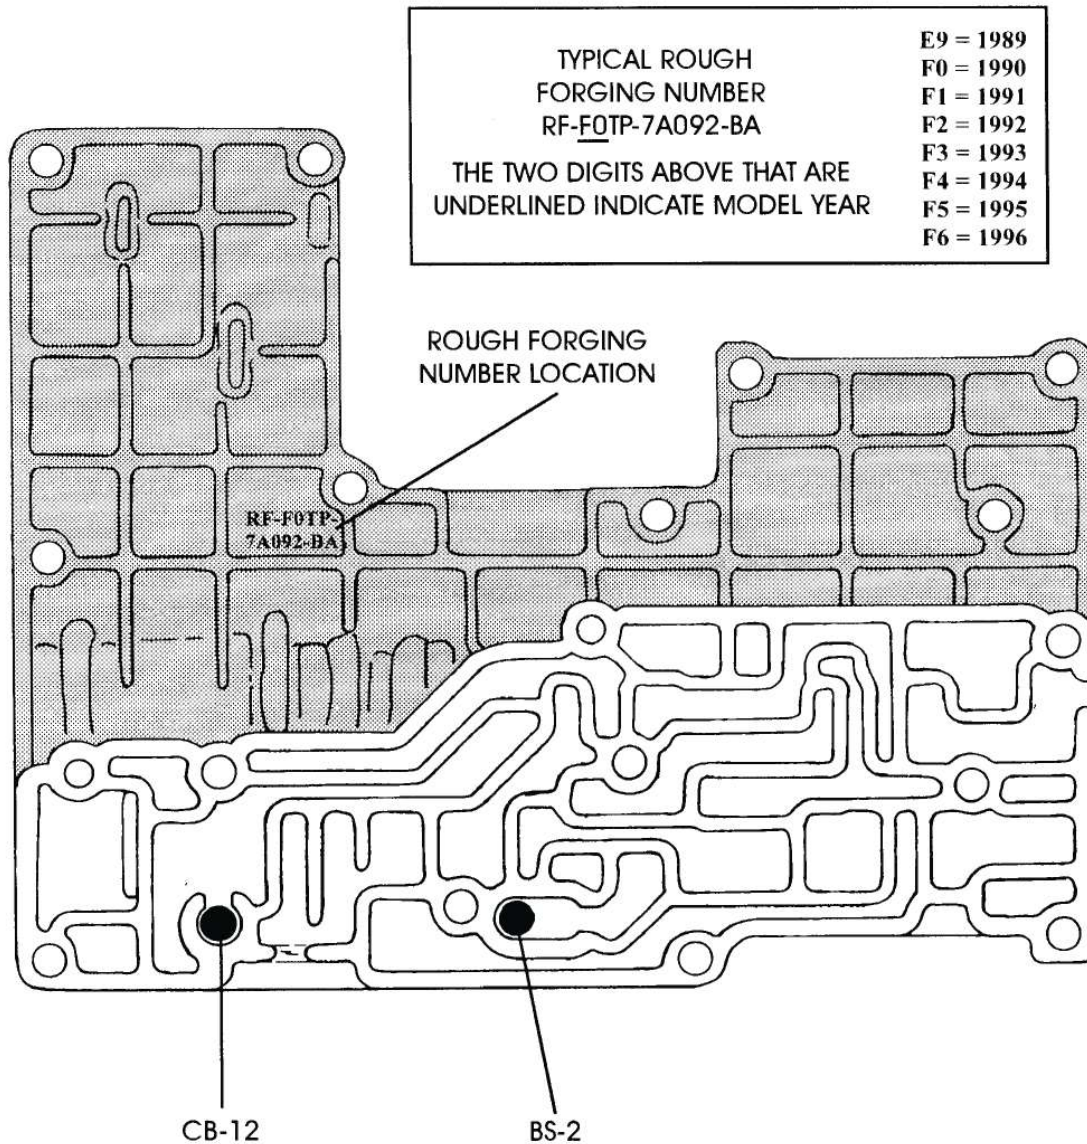
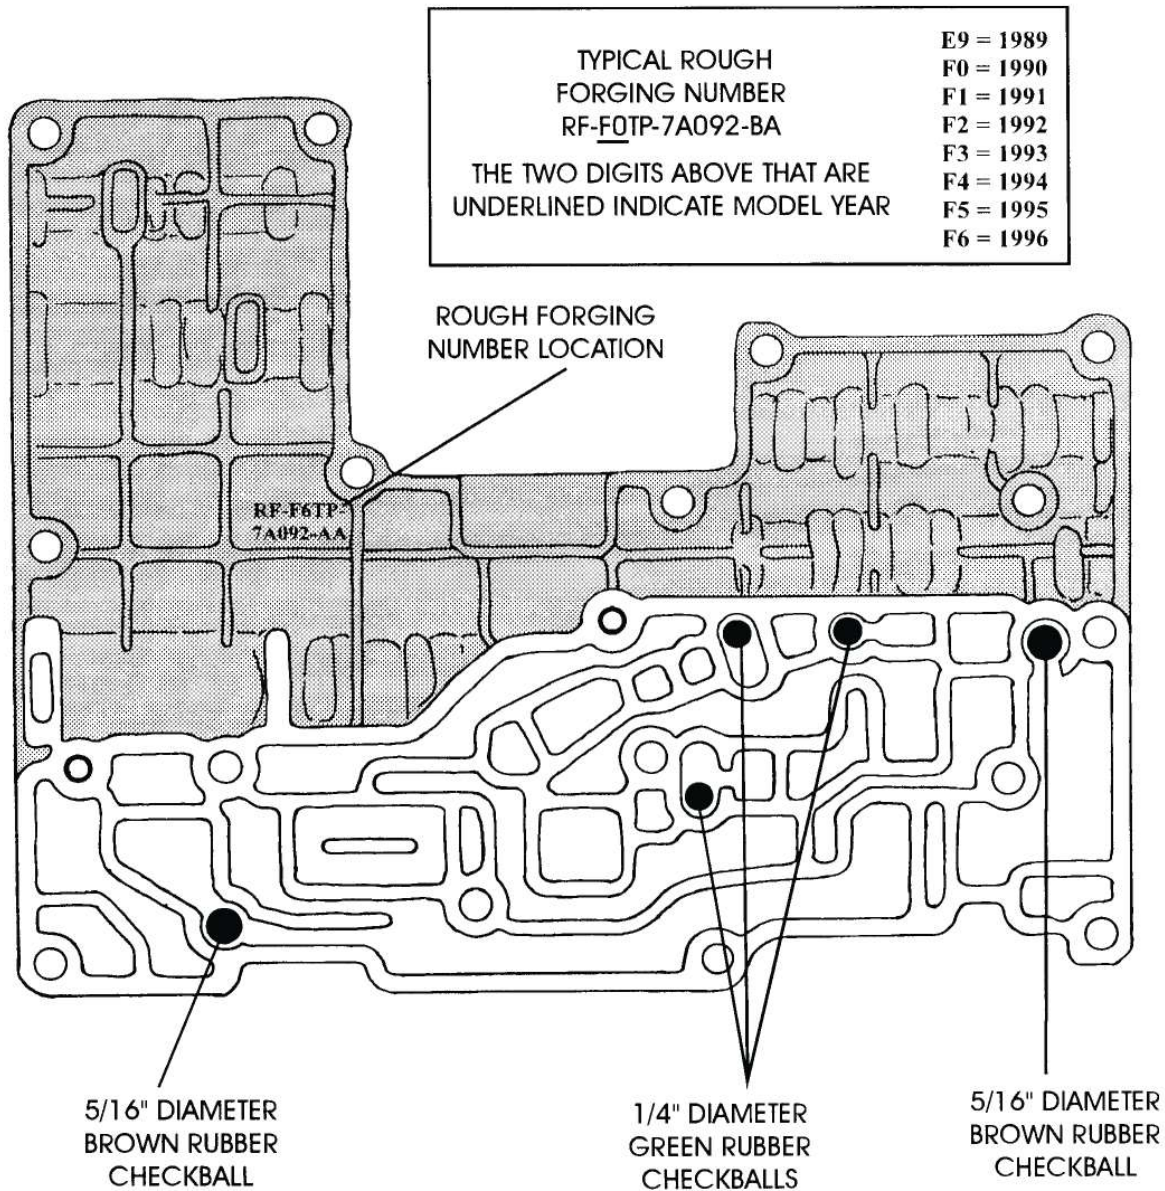
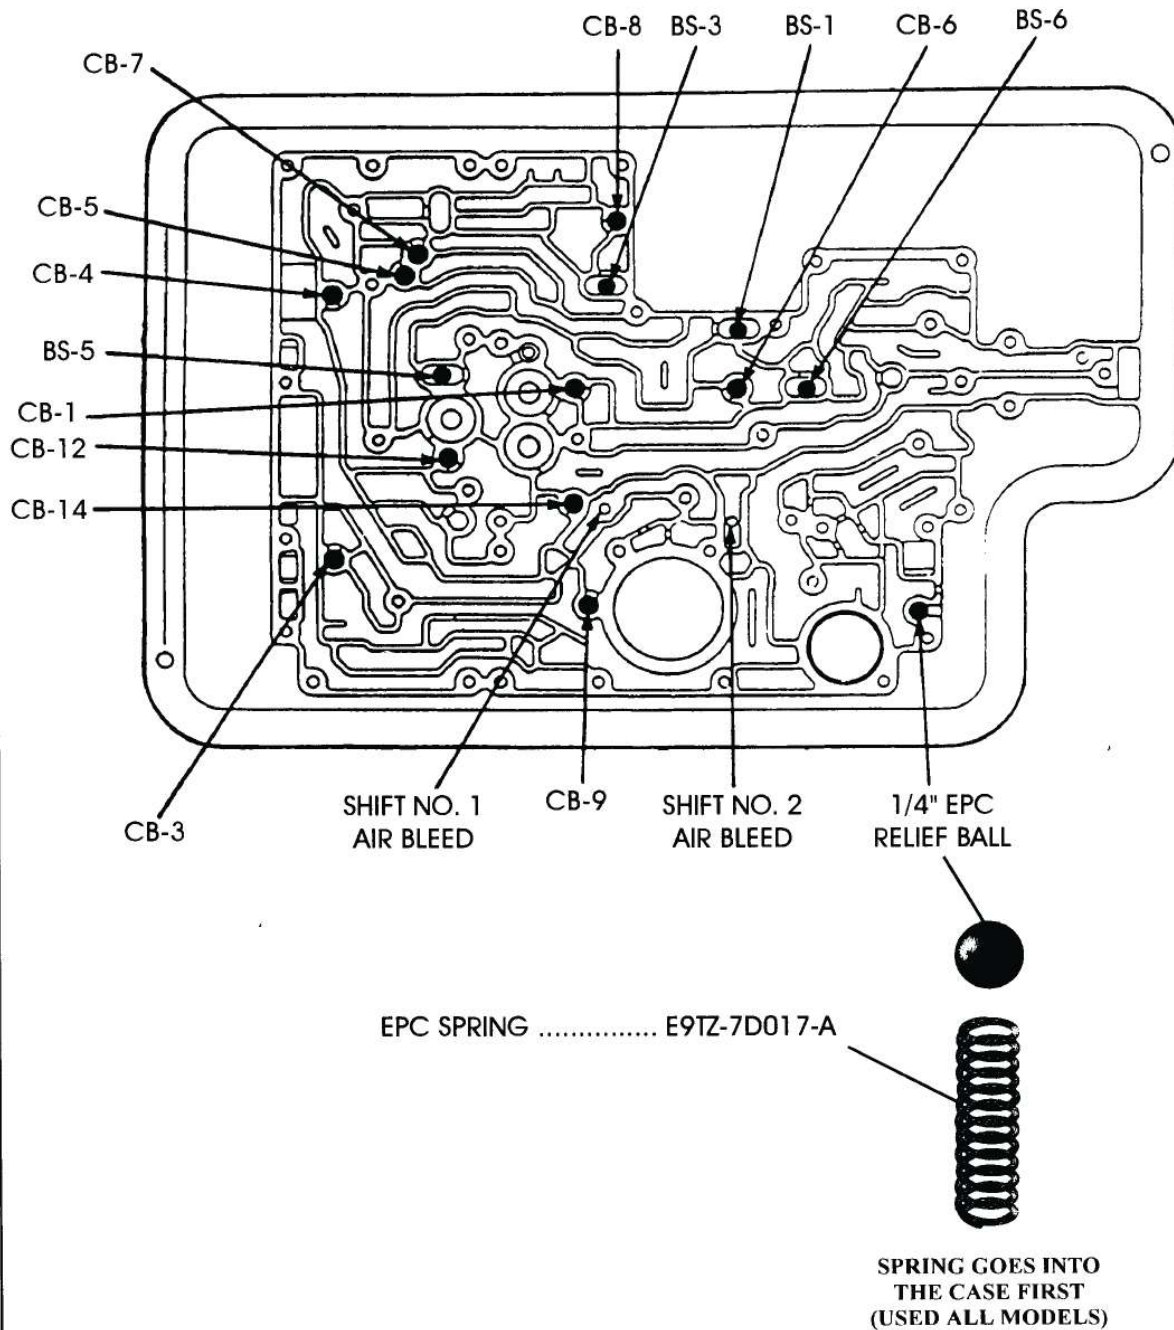

Figure 1
Figure 2
Figure 3
- (1) **VALVE BODY CHECKBALL LOCATIONS** - Have remained the same for 1989 thru 1995 model years, with **TWO** 5/16" rubber checkballs, and their locations are shown in Figure 1. Beginning in the 1996 model year there are **FIVE** checkballs in the main valve body and their locations are shown in Figure 2. Notice that there are two 5/16" rubber balls and three 1/4" rubber balls. The 1/4" rubber balls are green in color (See Figure 2).
- (2) **CASE CHECKBALL LOCATIONS** - Have now changed **three times** since the introduction in 1989, as listed below.
- Early 1989 Models** - Requires **Fourteen** 5/16" checkballs in the case, in the locations shown in Figure 3, and uses a 1/4" steel ball for the EPC blow-off, and location shown in Figure 3.
- (5) **MAIN VALVE BODY** - Has changed twice since the introduction in 1989 as listed below.
*1989 Models Only* - Can be identified by the differences in the worm track area at the 1-2 shift valve, as shown inside the circles in Figure 14. The best, and most accurate method to identify the valve body, is the rough forging number cast into the valve body in the location shown in Figures 1 and 2.
*90-95 Models Only* - Can be identified by the differences in the worm track area at the 1-2 shift valve, as shown inside the circles in Figure 14. The best, and most accurate method to identify the valve body, is the rough forging number cast into the valve body in the location shown in Figures 1 and 2.
*1996-UP Models Only* - Has a multitude of worm track location differences from the previous models, as shown in Figure 15. The best and most accurate method to identify the valve body, is the rough forging number cast into the valve body in location shown in Figures 1 and 2.
The 1996-Up models have a multitude of worm track location differences than the previous models, to accommodate the added valve body checkballs, as shown in Figure 17. The best, and most accurate method of identification is the rough forging number cast into the lower valve body using the formula in Figures 1 and 2.
NUMBER AS SHOWN IN FIGURES 1 AND 2***